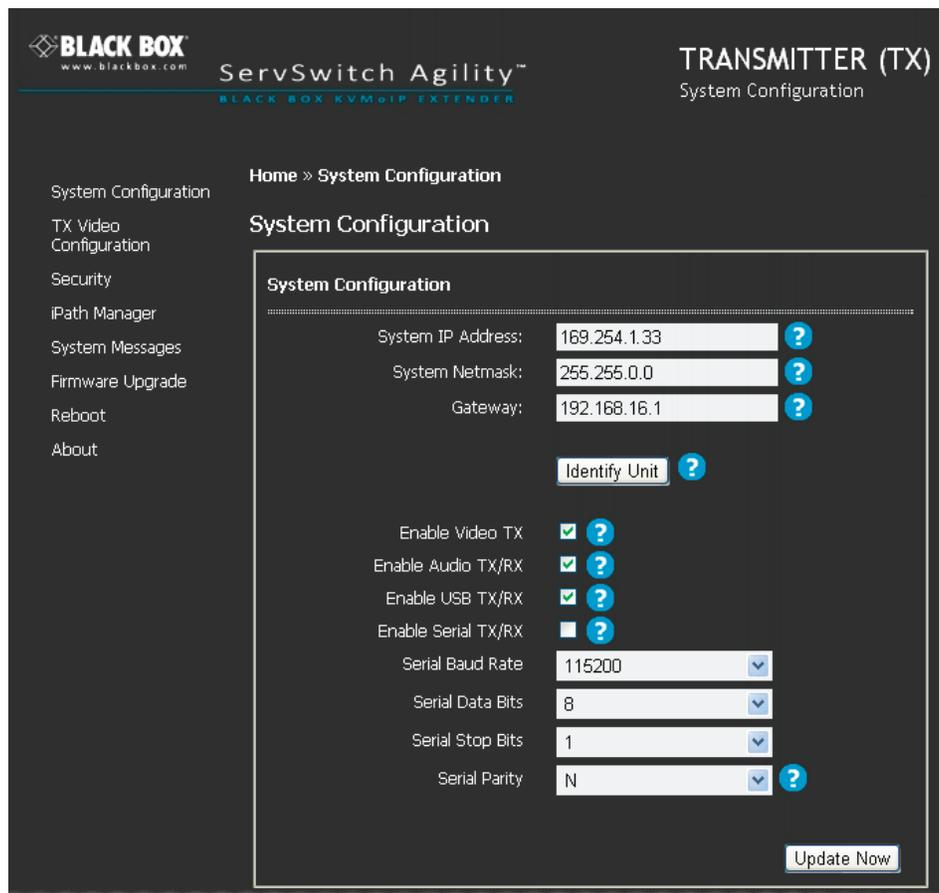

Figure 4-6. System Configuration page.
- 3 Check that the data streams (Video TX, Audio TX/RX, USB TX/RX and Serial TX/RX) are enabled (ticked) or disabled (unticked) as appropriate. There are similar options within the ServSwitch Agility remote receiver unit configuration and it is important that the settings in both units are the same. If one of these options is ticked in one unit but unticked in the other, then that data stream will remain disabled. If you make a change, remember to click the Update Now button. See Figure 4-6.